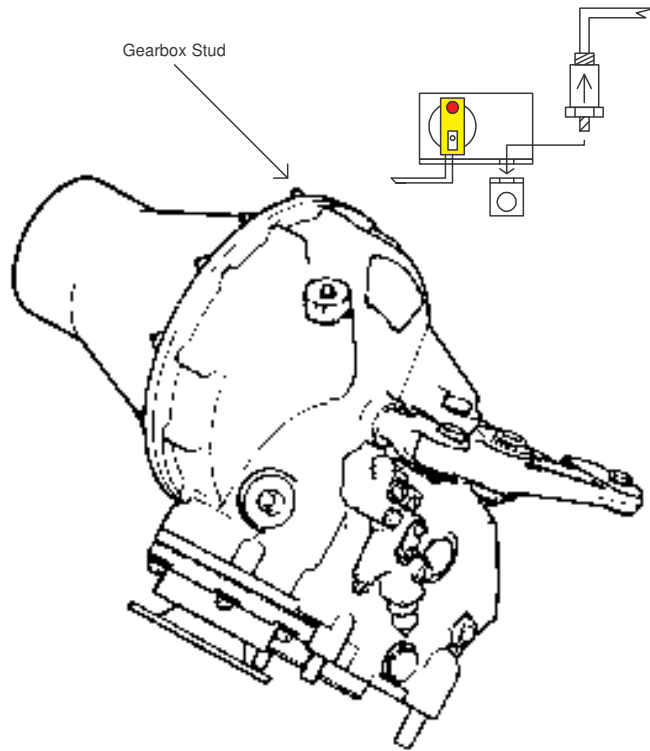

Figure 1
2. Locate the 90 degree gearbox stud at the 11:00 position as shown below. Remove nut from stud on gearbox. Install 991D-1 Sensor (Item 6) through 5/16 hole in General Purpose Phototach Mount (Item 8). Thread Sensor into Sensor Mount (Item 7). Install the assembly on the gearbox mounting stud at the 11:00 position and secure with nut. The connector for 991D-1 sensor should be pointed up. (Figure 1)